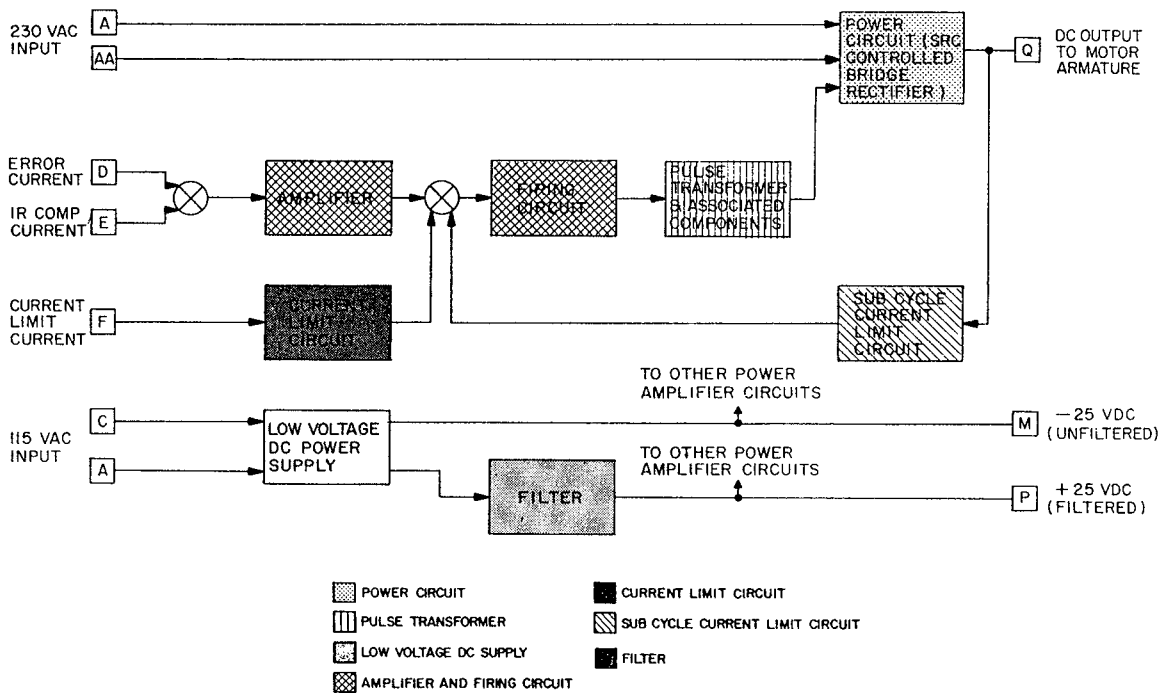
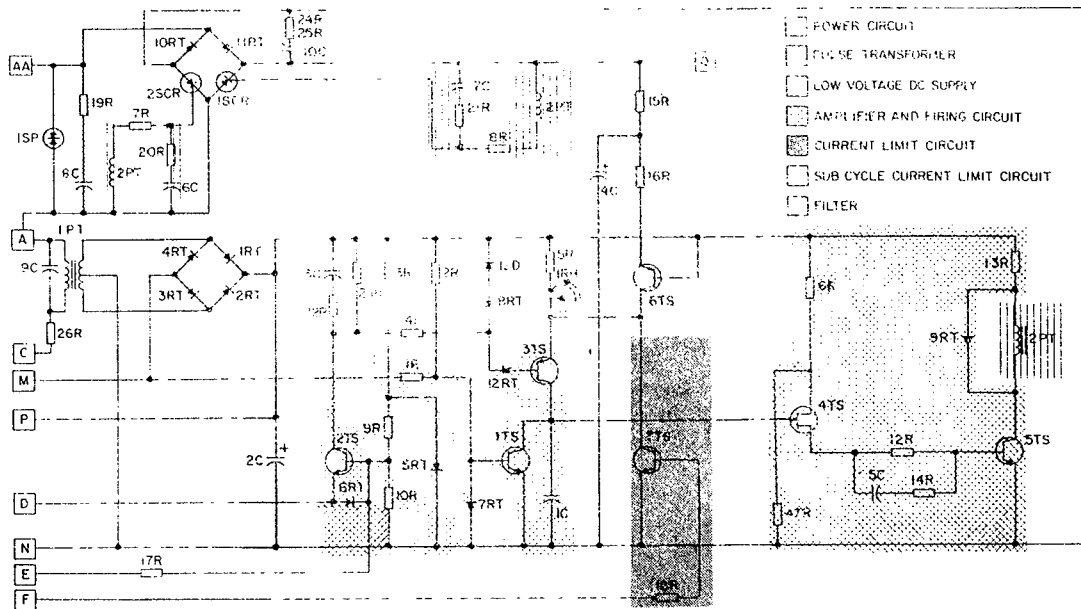

Figure 3-7 Functional Block Diagram of Power Amplifier Module 46S01315-0010/0020
Figure 3-8 Typical Schematic of Power Amplifier Module 46S01315-0010
**3.2.3 Power Amplifier Module** – Output of the power amplifier module is controlled by input current signals from the reference and feedback module. On Saber 3200 drives with armature feedback these currents are error, IR comp, and current limit. On Saber 3200 drives with 1% speed control accuracy (tachometer-generator feedback) these currents are error and current limit. With either type of feedback, the control current input to the amplifier represents the difference between desired and actual drive speed. This control current signal controls armature voltage. Block diagram of module is shown in figure 3-7, typical schematic diagrams are shown in figures 3-8 and 3-9.